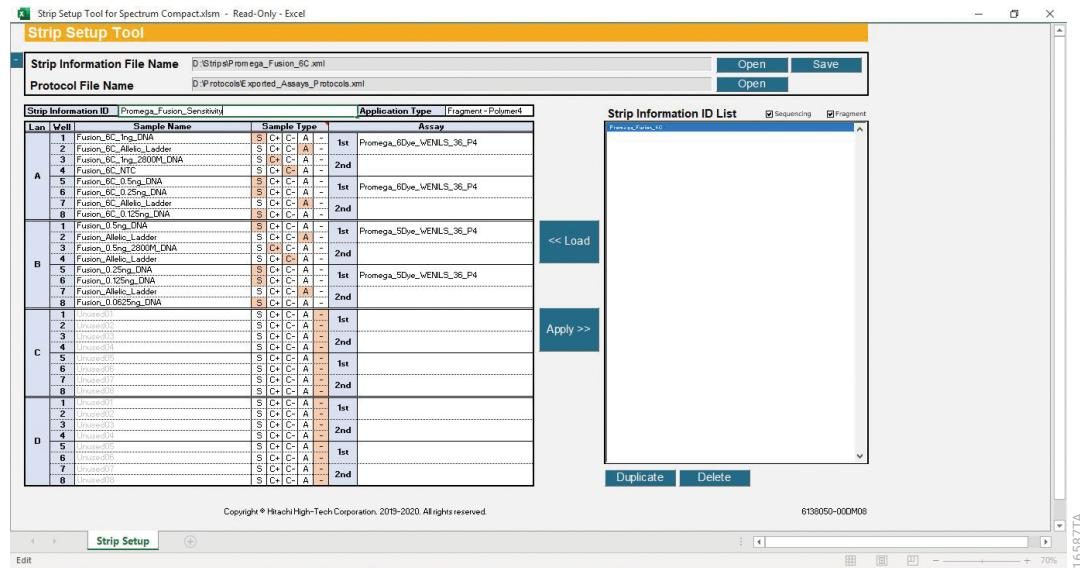

Figure 253. Strip Setup Tool for Spectrum Compact with edited new Strip Information ID.
4. Edit the information for the new strip following the instructions for Creating New Strip Information (Section 13.7.2). If desired, a new Strip Information ID can be assigned (Figure 253).